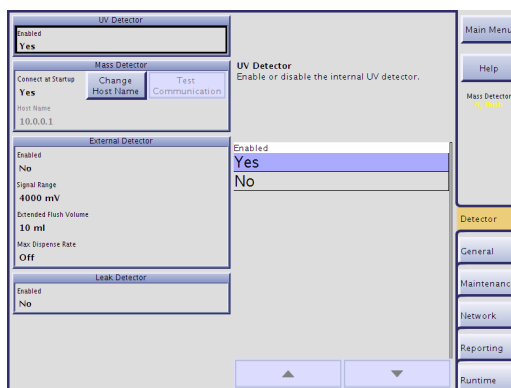

Figure 1-7. System Mode
In the System mode, the software is divided into six (6) tabs that can be accessed in the right-hand panel (see Figure 1-7). Here is a short description of what you can do at each tab: